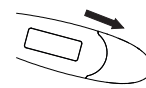

Figure 3
- Pull battery cover off as shown in Figure 3.